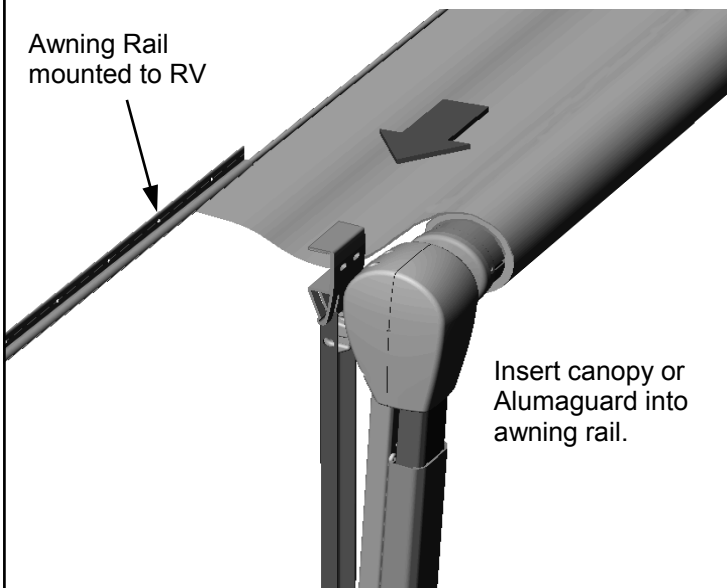

figure 7
F. Carefully slide the awning polyrod or the Alumaguard drip rail into the awning rail as the helpers alternately guide the front and rear arms (see **figure 7**).